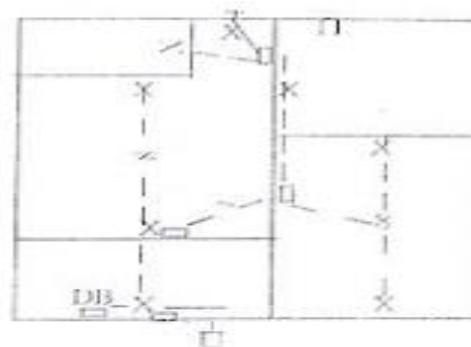

Fig. 5: Wiring Plan
b) Wiring Plan is as shown in fig.5